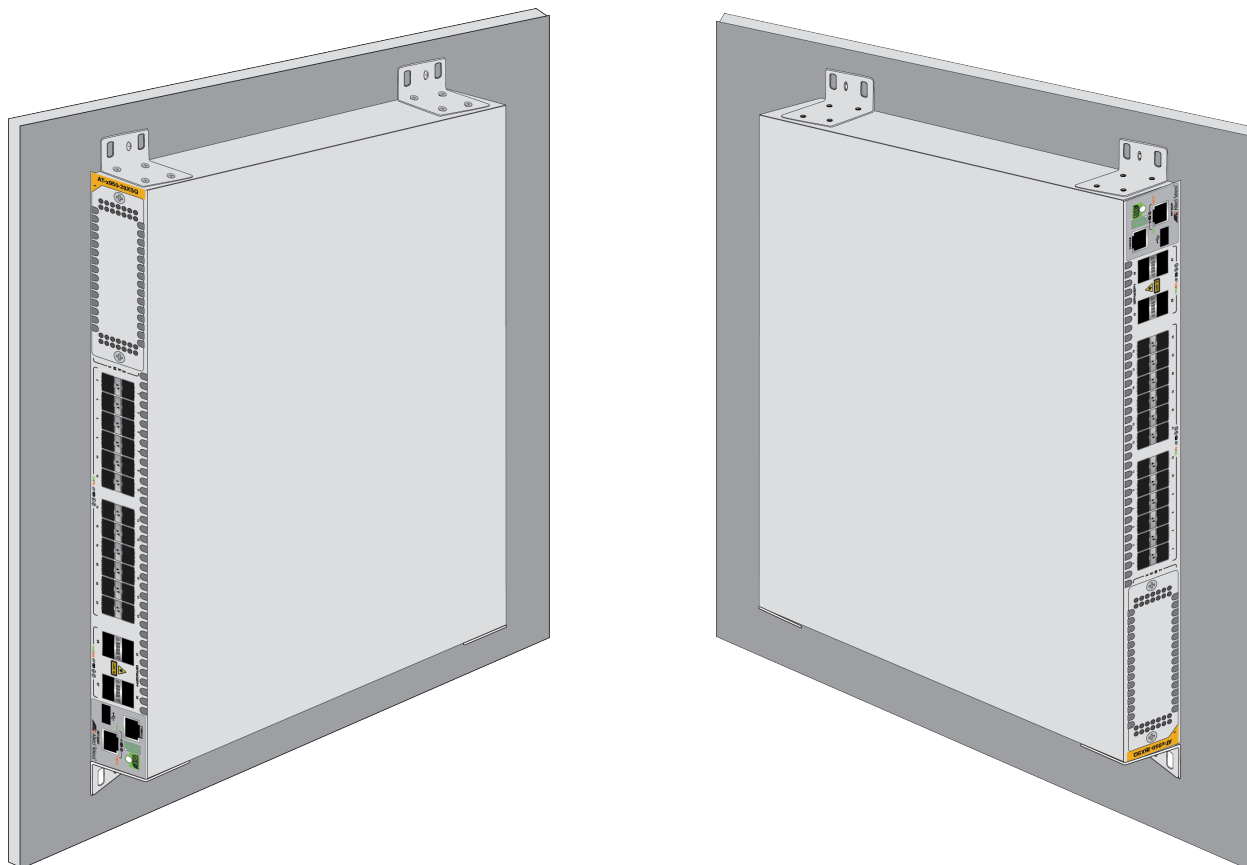

Figure 89. Positions of the Switch on the Wall
You can install the switch on a wall with the front panel on the left or right, as shown in Figure 89. Do not install it with the front panel on the top or bottom.
- ❑ Position the switch so that the front panel is either on the left or the right. Refer to Figure 89 on page 152. You may not install the switch with the front panel facing up or down.
- Position the switch so that the front panel is either on the left or the right. Refer to Figure 89 on page 152. You may not install the switch with the front panel facing up or down.